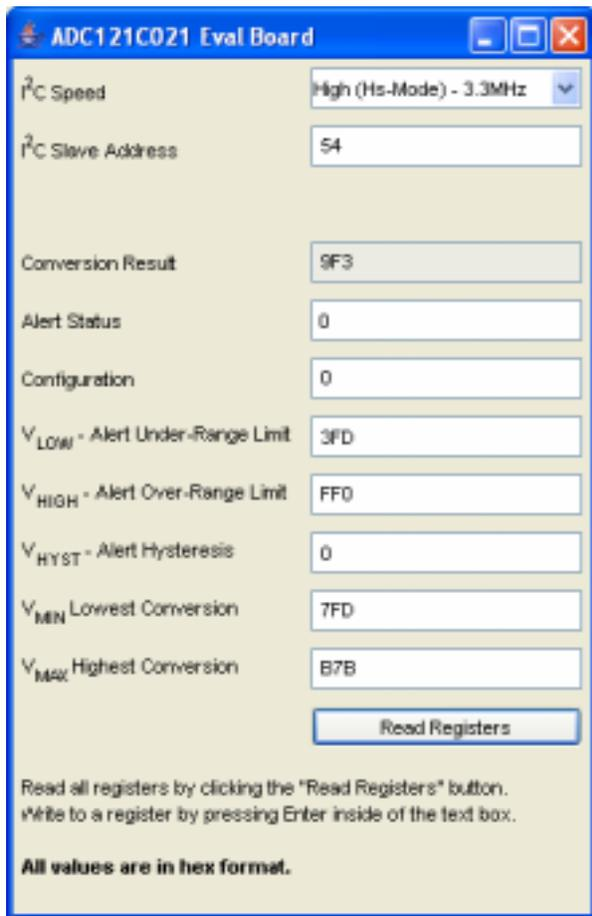

Figure 10: ADC121C021 Control Panel
Table 1 describes the function of the various jumpers on the ADC121C021 evaluation board. The evaluation board schematic is shown in *Figure 10*.
- Navigate to the ADC121C021 Eval Board Window. This is the Control Panel for the device (Figure 10).
- Set the I²C Slave Address (Figure 10). The address will default to the correct address for the ADC121C021 (54hex). If evaluating the ADC121C027, the I²C address must be changed to reflect the state of the address selection pin (ADDR).
- Press the "Read Registers" button. All of the register fields will update (Figure 10).
- Configure the ADC's internal registers. The Alert function and Automatic Conversion Mode are setup through the Configuration register. After making changes to a register value, press the Enter key to write the register (Figure 10).